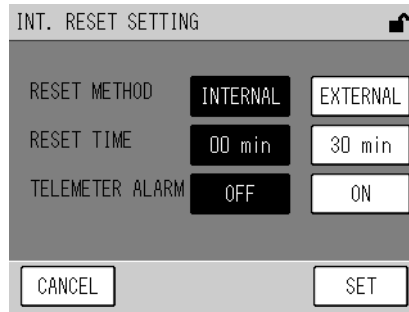

Fig. 78 INT. RESET SETTING screen
- [INT. RESET]: Displays the INT. RESET SETTING screen (Fig. 78 on page 62).